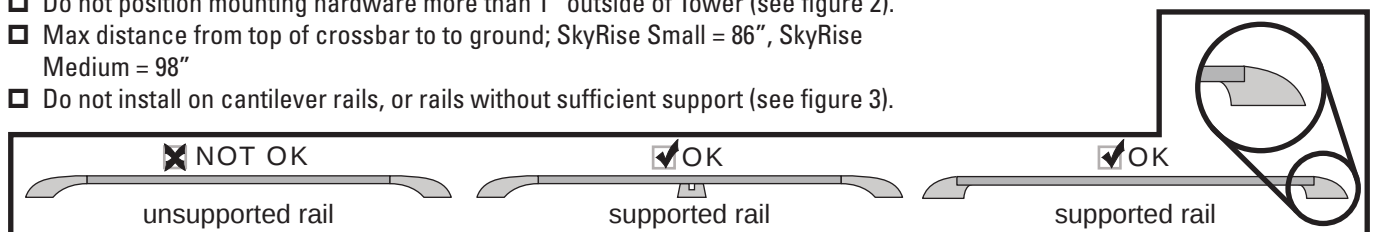

fig. 3
- ☐ Do not install on cantilever rails, or rails without sufficient support (see figure 3).